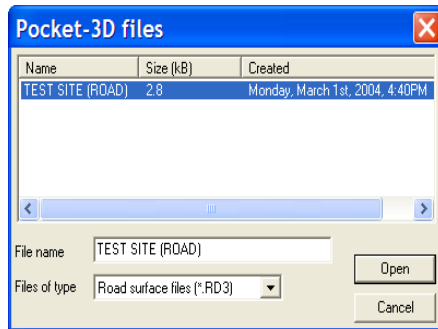

Figure 6-2. Select and Open Pocket-3D Alignment File
3. On the *Pocket-3D files* dialog box, select the file to import and click **Open** (Figure 6-2 on page 6-3). The file type is automatically selected. The alignment information from the selected file is added to the 3D Project file.